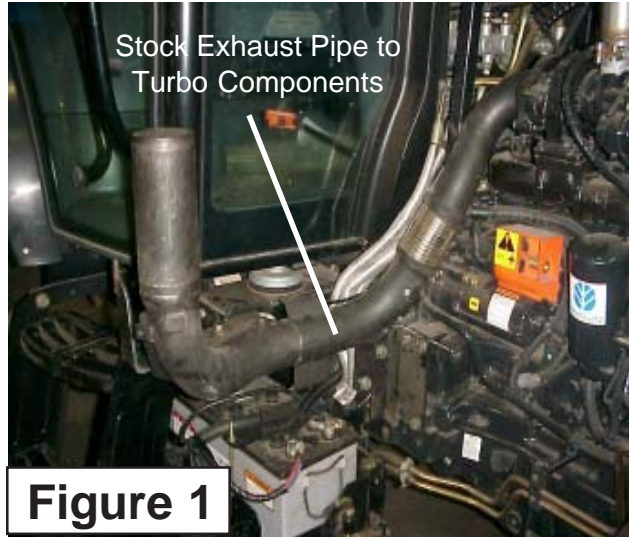

Figure 1
1. Remove the New Holland Factory Fuel Tank From Tractor. Drain all the fuel from the fuel tank with an approved pump or other device. Store fuel in an approved area. Remove the factory fuel tank. It is somewhat easier if the left rear tire & wheel are removed but it is not required. Some Tractors come with an optional Fuel Tank Protection Plate under tank, if you have this plate it will not be used with the Alamo Industrial replacement tank. (See Figure 1).